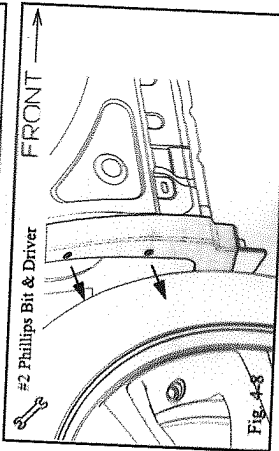

Fig. 4-8
- (k) Using a #2 Phillips driver remove and save the two (2) screws at the rear wheel fender molding (Fig. 4-8).